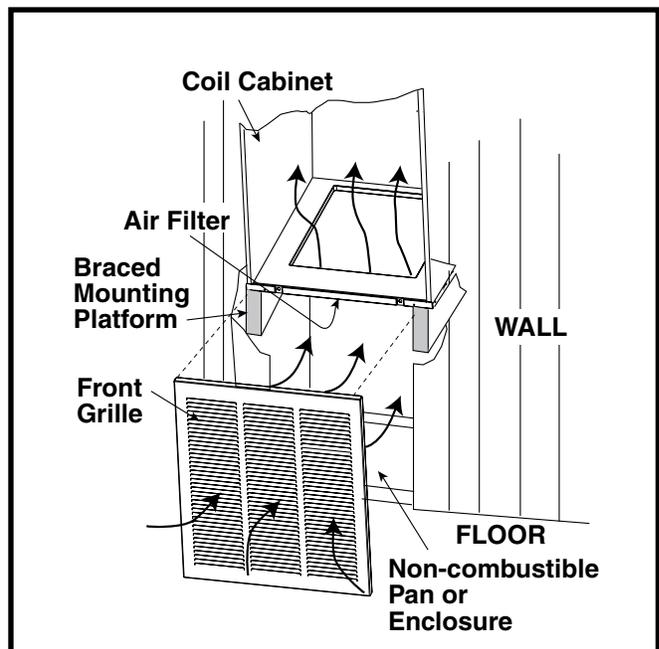

Figure 15. Over-the-Floor Return Air System
- If floor underneath furnace is made of combustible material, locate a pan fabricated of non-combustible material with 1" upturned flanges under furnace return air opening. See Figure 15.
- Install return air grille in closet preferably at same level as upflow stand or below mounting platform. See Figure 15.